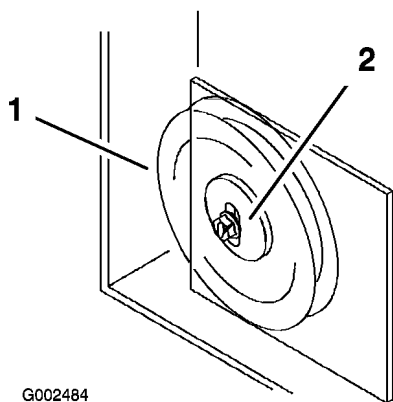

Figure 54
- If the mower idler plate contacts the end of the adjustment slot and more belt tension is required, a small change to the right side fixed idler can create more belt tension adjustment (Figure 54).